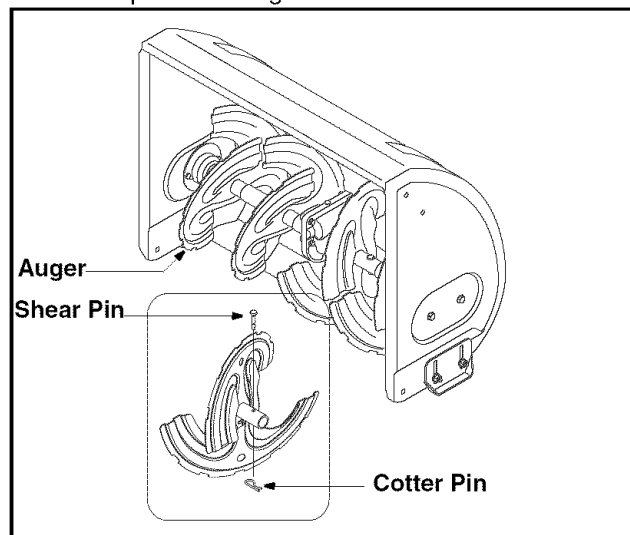

Figure 18
The augers are secured to the spiral shaft with two shear pins and cotter pins. See Figure 18 . If you hit a foreign object or ice jam, the snow thrower is designed so that the pins will shear.
2. Replace the pins if needed. Two replacement shear pins and cotter pins have been provided with the snow thrower. Spray an oil lubricant into shaft before inserting new pins and securing with new cotter pins. See Figure 18.
1. Remove four carriage bolts and lock nuts which attach two skid shoes to the snow thrower on two sides. See Figure 18 .